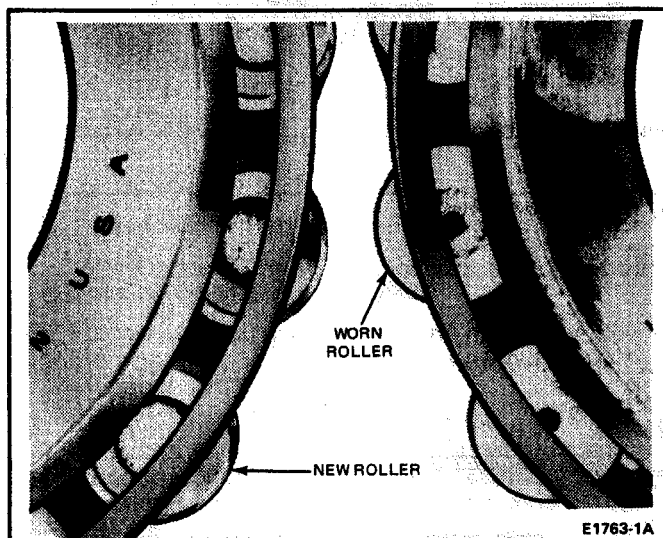

FIG. 4 Roller Bearing End Wear
12. Inspect the bearing races and rollers for pitting, galling or erratic wear patterns. Inspect the rollers for end wear. Replace the bearings if worn or damaged (Fig. 4).